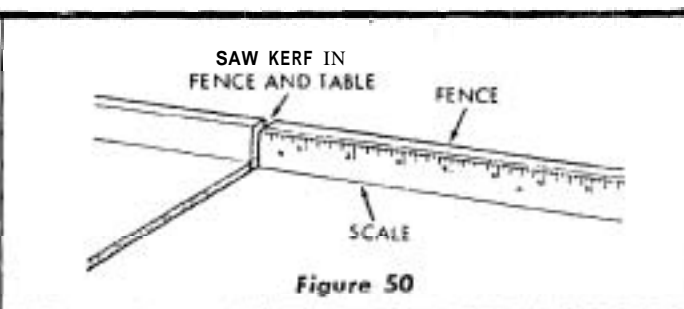

Figure 50
4. A scale may be provided to aid the operator when measuring lengths during cross-cut operations, by tacking or gluing a yard-stick or wood scale to the fence as shown. (See figure 50.)